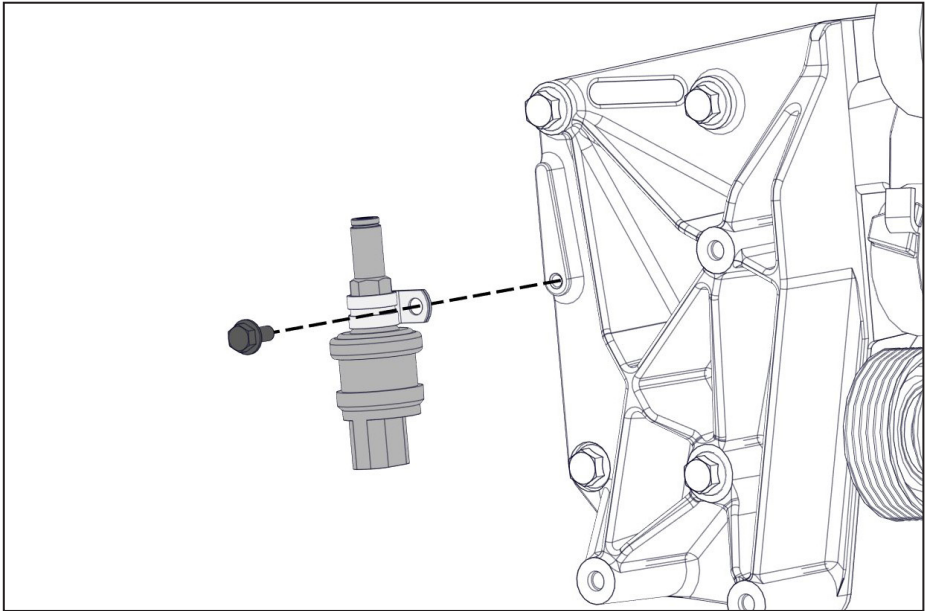

Figure 8 — Install pressure switch
- Slide the pressure sensor assembly into the P-clip and mount it to the bracket using the supplied M6 × 1.0 × 14 mm fastener (Figure 8).